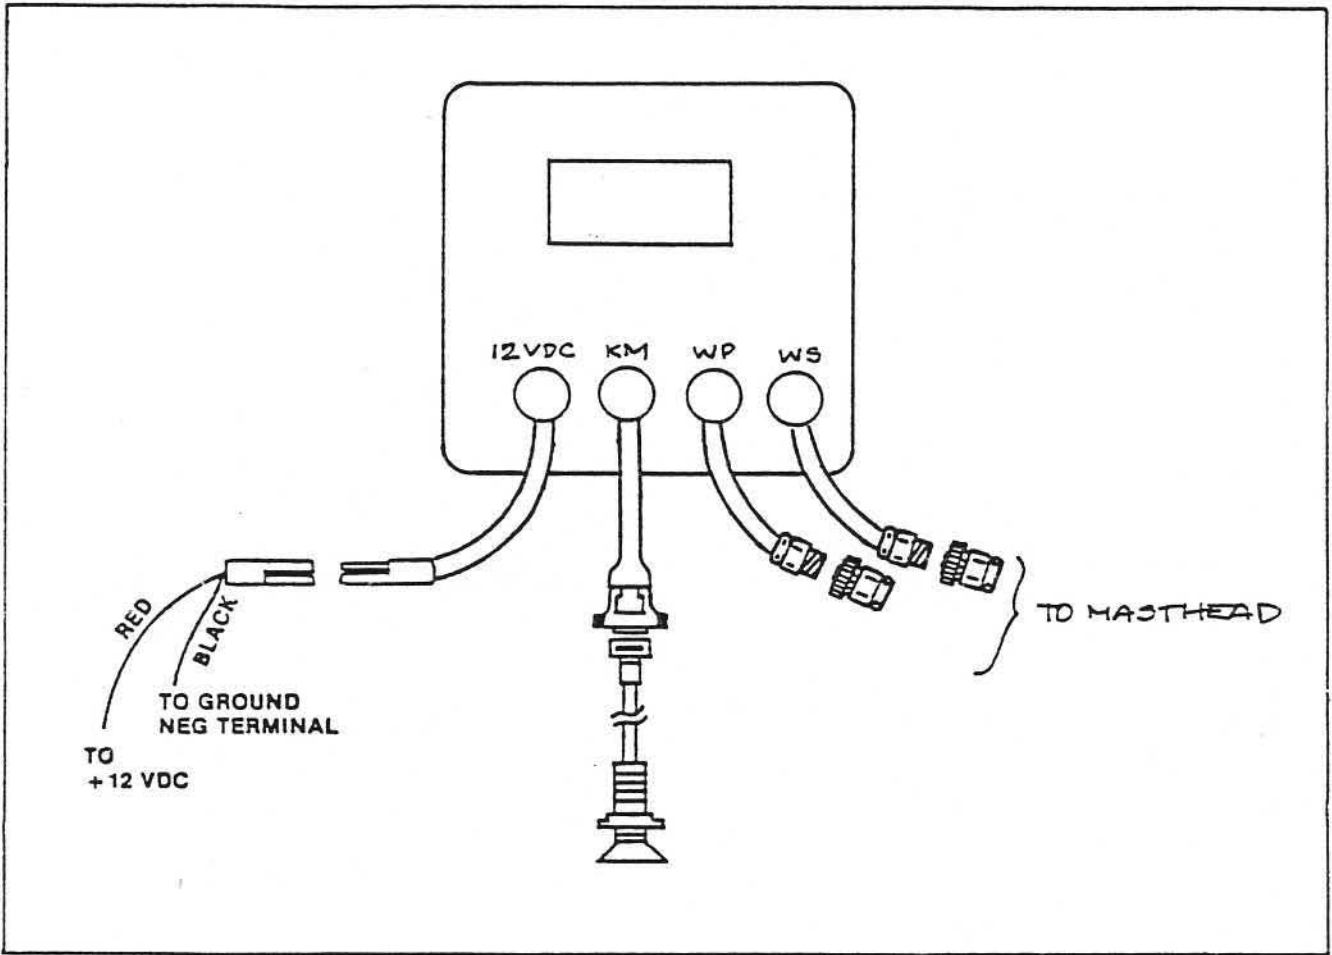

FIGURE 3.9
5. Connect cables as shown in Figure 3.9.